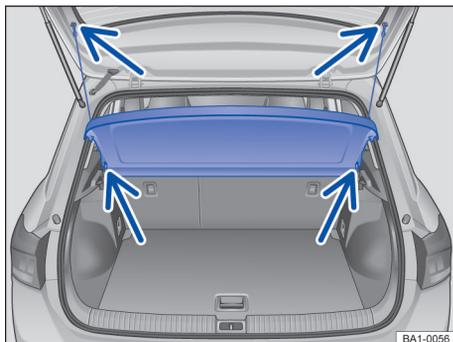

Fig. 144 In the luggage compartment: remove and install the luggage compartment cover.
- Unfasten the retaining cords from the rear lid support → Fig. 144 (upper arrows).
- Remove the luggage compartment cover from behind out of the side supports → Fig. 144 (lower arrows).
- Push the luggage compartment cover forward, engaging the side supports → Fig. 144 (lower arrows).
- Fit the retaining cords on the rear lid → Fig. 144 (upper arrows).